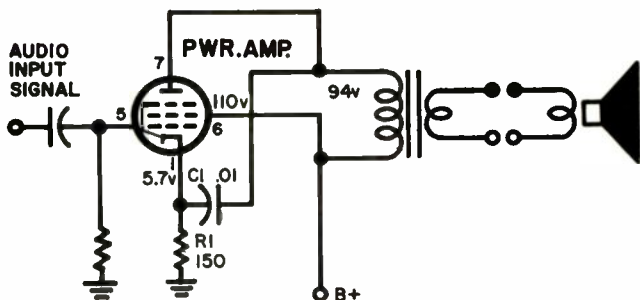

Fig. 612. Typical circuit of an audio power amplifier in an ac-dc receiver.
This is easy. Fig. 612 shows an audio power amplifier. Put your
With Fig. 612 as a guide, let's see what sort of troubles we can expect out of the single-ended audio power amplifier stage.
- Plate capacitor (C1) in Fig. 612, shorted.